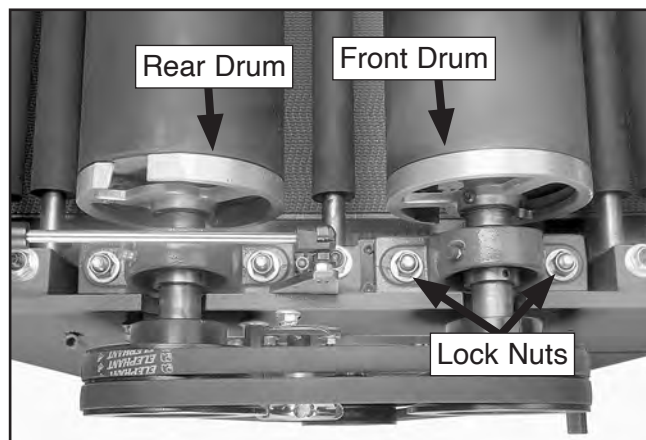

Figure 68. Location of front drum bearing lock nuts.
- Loosen front drum pillow bearing lock nuts (see **Figure 68**).